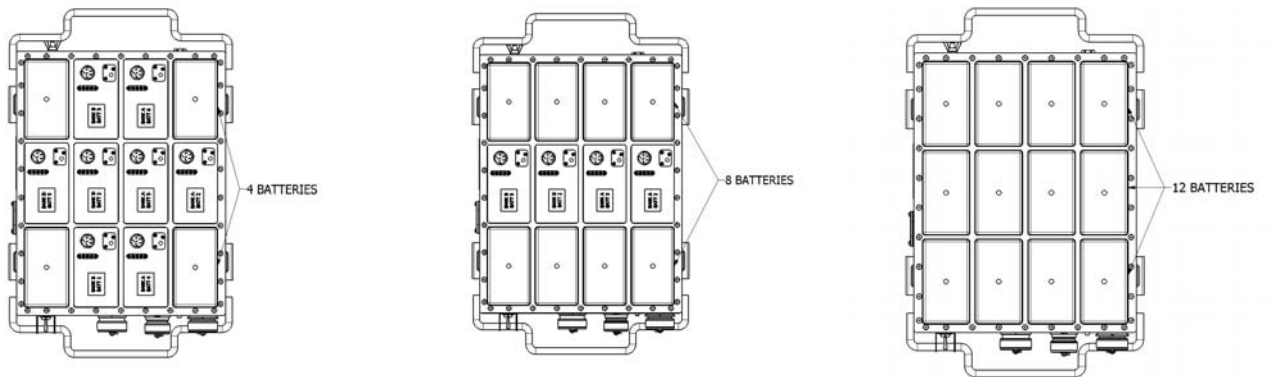

Figure 3-4 Battery Placement
- Mechanical robustness of the final assembly is maintained if batteries are loaded in the corners and center of the unit first, leaving gaps in other areas. See Figure 3-4 for suggested partial loading sequences. Expected performance and battery life requires 12 batteries to be loaded into the unit. The Battery Box state of charge is based upon all twelve positions being populated and will reflect lower values if partial population is used. Note that an equal number of cells are loaded on each side of the Battery Box. Besides distributing the weight batteries are required in both banks for the Battery Box to function.